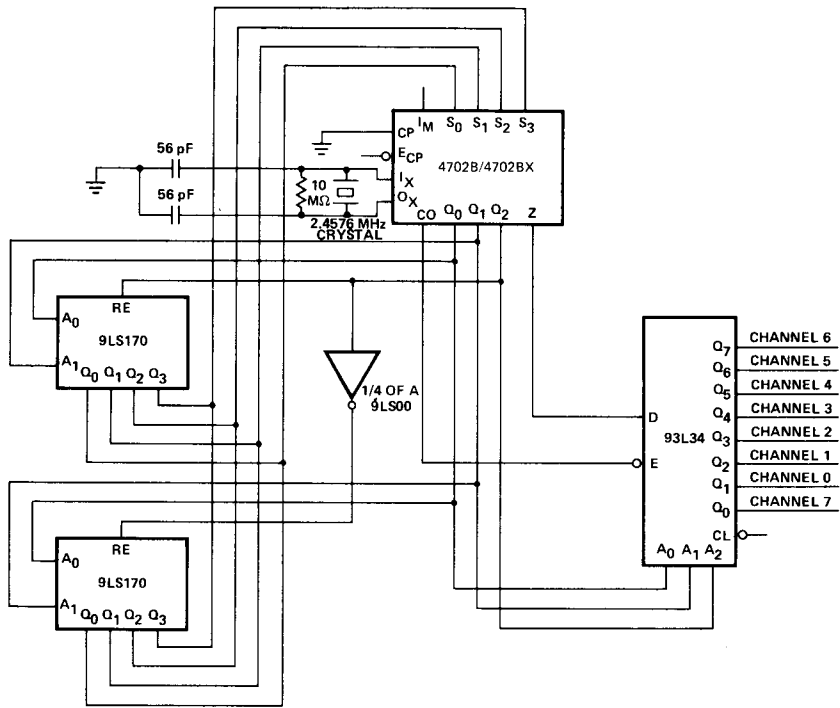

Fig. 3
**Fully Programmable Multichannel Operation** — *Figure 3* shows a fully programmable 8-channel bit rate generator system that, under computer control, generates arbitrarily assigned bit rates on all eight outputs simultaneously. The basic operation is similar to the previously described fixed programmed system, but two 9LS170 4 x 4 Register File MSI packages are connected as programmable look-up tables between the Scan Counter outputs (Q0 to Q2) and the multiplexer Select inputs (S0 to S3). The content of this 8-word by 4-bit memory determines which frequency appears at what output.